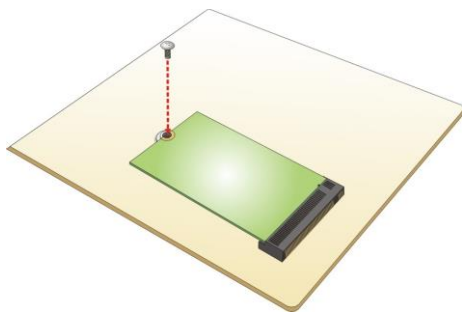

Figure 3-4: Securing the M.2 Module
Step 4: Secure the M.2 module with the previously removed retention screw (Figure 3-4).